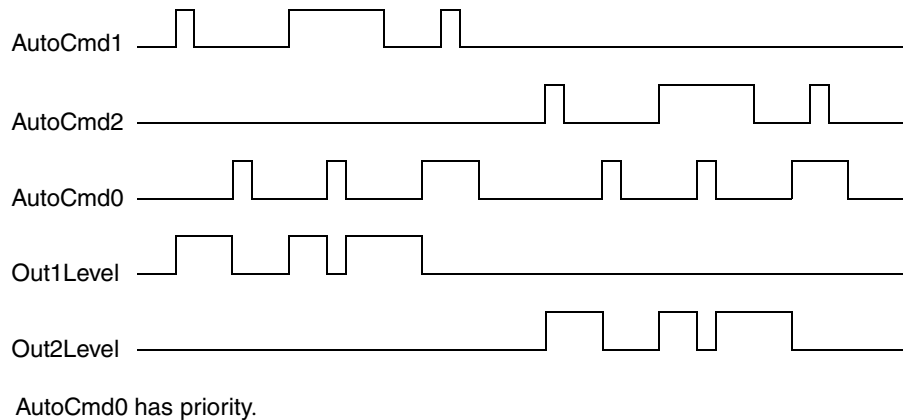

Figure 126. Status relations of OutLevel parameters and Auto commands (BiCore)
- In Auto mode, there are additional parameters *AutoCmd2*, *Out2* and *Out2Level*. The influence of *AutoCmd* parameters on *OutLevel* parameters can be seen in Figure 126 on next page.